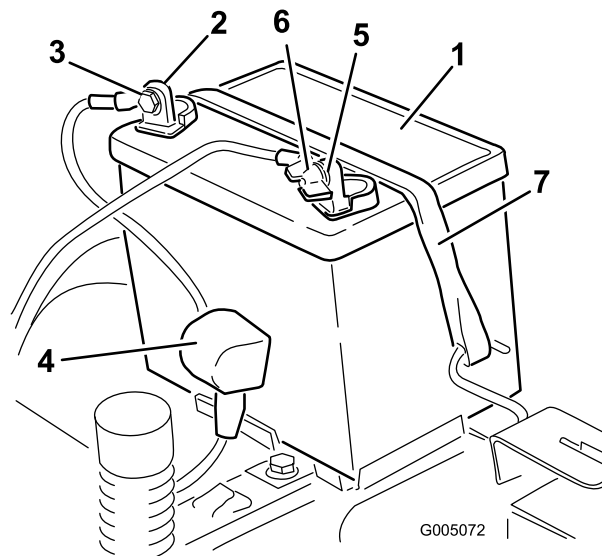

Figure 43
4. Disconnect the negative (black) ground cable from the battery post (Figure 43). Retain all fasteners.
5. Slide the rubber cover up the positive (red) cable. Disconnect the positive (red) cable from the battery post (Figure 43). Retain all fasteners.
6. Remove the battery hold-down (Figure 43) and lift the battery from the battery tray.
1. Position the battery in the tray (Figure 43).
5. Secure the battery with the hold-down (Figure 43).